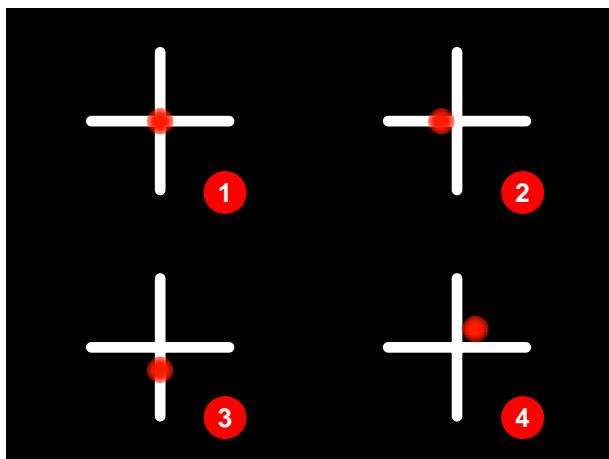
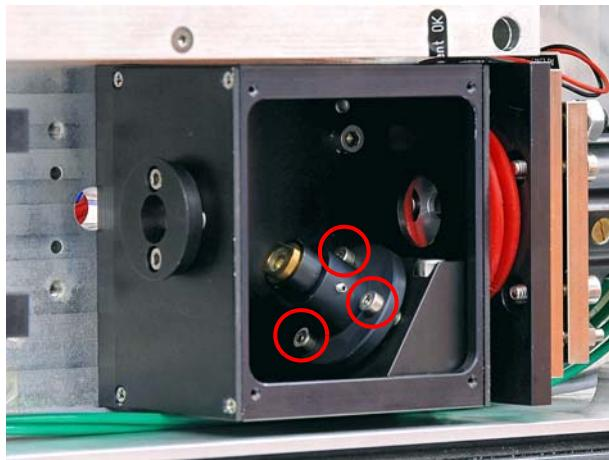

Figure 6.52 Checking the adjustment of the alignment laser
Figure 6.53 Adjustment of the alignment laser
11. Check the position of the alignment laser in relation to the image of the cross hairs. Figure 6.52 shows examples for possible images:
- Adjustment OK (1)
- Emission too far to the left (2)
- Emission too low (3)
- Emission too far to the right (4)
13. Adjust the alignment laser to the center of the marked cross hairs using the three adjusting screws (Figure 6.53).